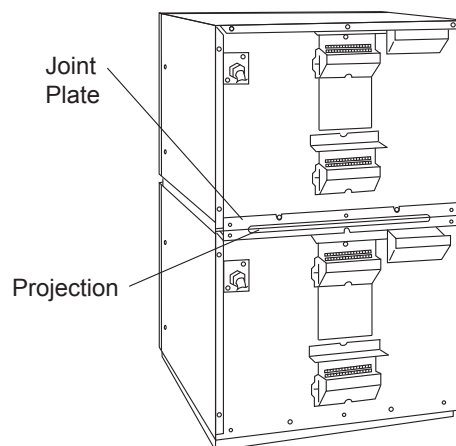

Fig. 2
4. Attach and tighten five screws (a) and the screw (b). See Fig. 2.